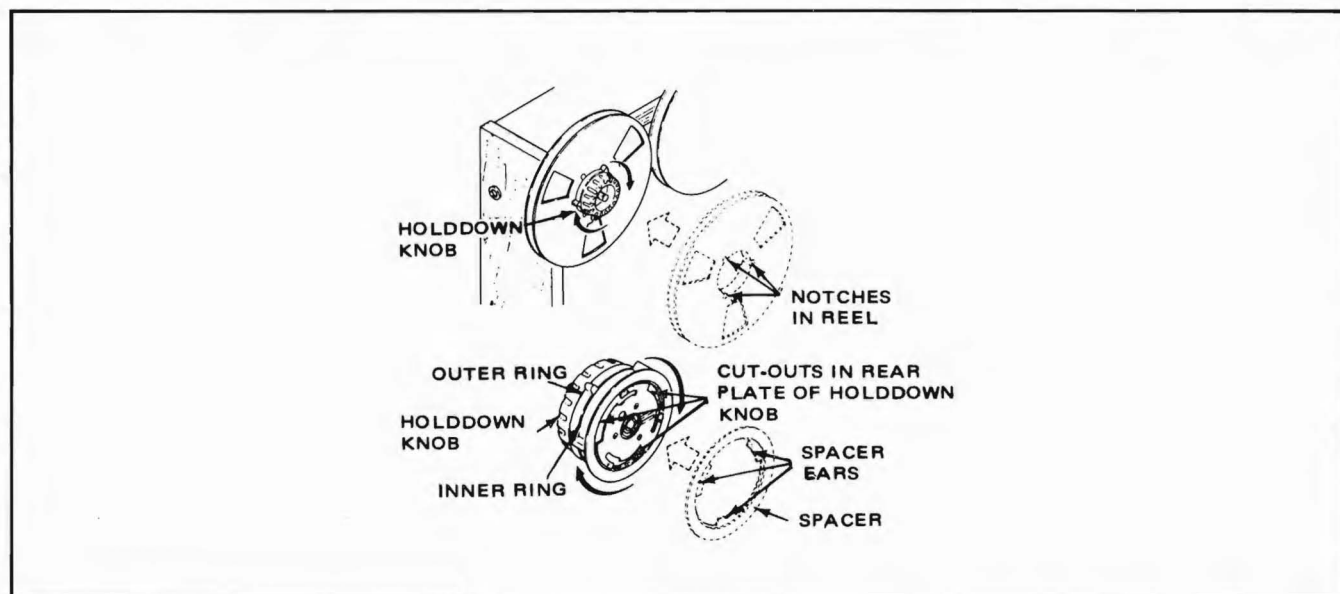

Figure 3-2. Large Hub Reel Installation
3. Turn the outer section of the holddown knob fully counterclockwise to line up the three detents in the inner section with the three detents in the outer section (see Figure 3-2).
Refer to Figure 3-2 and remove the spacer as follows: